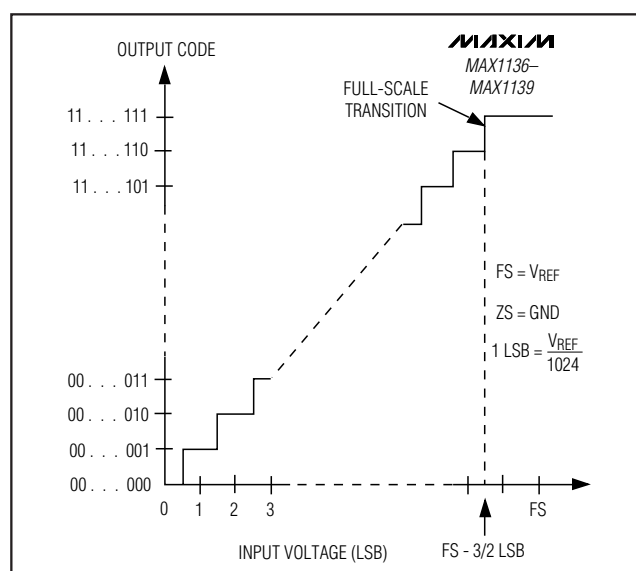
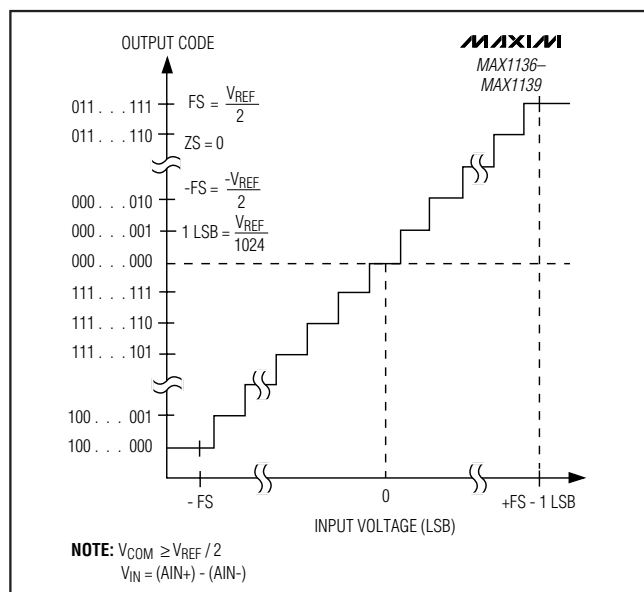

Figure 12. Unipolar Transfer Function
Figure 13. Bipolar Transfer Function
Output data coding for the MAX1136–MAX1139 is binary in unipolar mode and two's complement in bipolar mode with 1 LSB = (V_{REF}/2N) where 'N' is the number of bits (10). Code transitions occur halfway between successive-integer LSB values. Figure 12 and Figure 13 show the input/output (I/O) transfer functions for unipolar and bipolar operations, respectively.